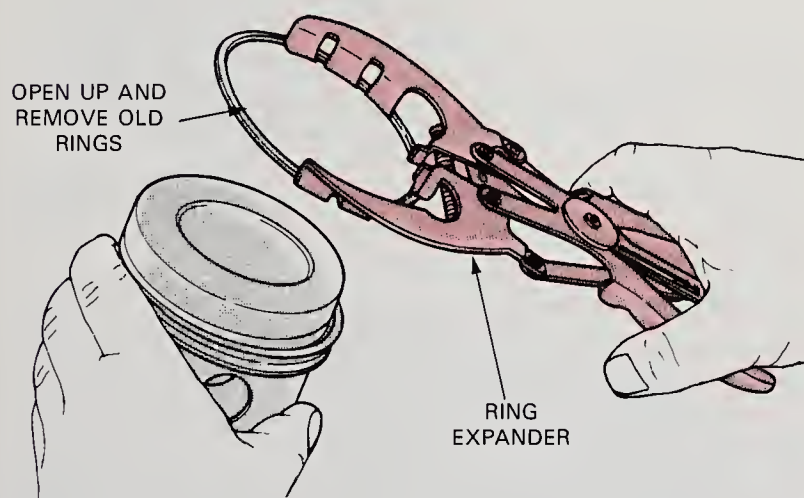

Fig. 46-16. You can remove old rings by hand or with ring expander, as shown. Inspect for groove wear or damage as you work. (Chrysler Corp.)
9. Remove all of the old rings from their pistons. Spiral the rings off with your fingers or use a ring expander, Fig. 46-16.